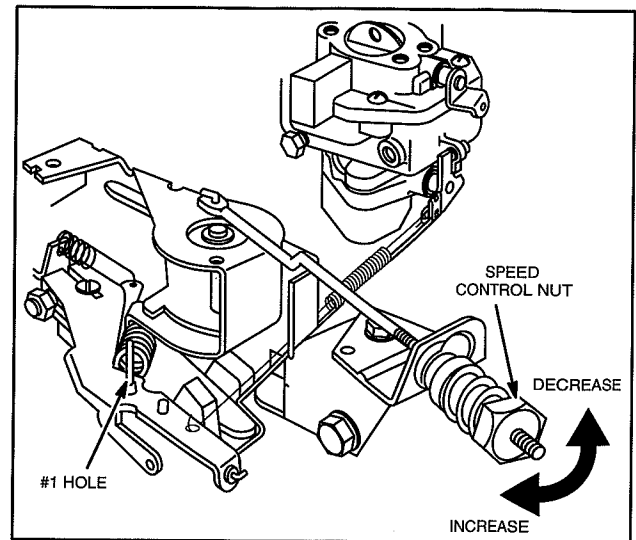

Fig. 23 – Governor Adjustment, Fixed Speed
5. Turn fixed speed adjustable control nut clockwise until desired Top No Load RPM is obtained, Fig. 23.